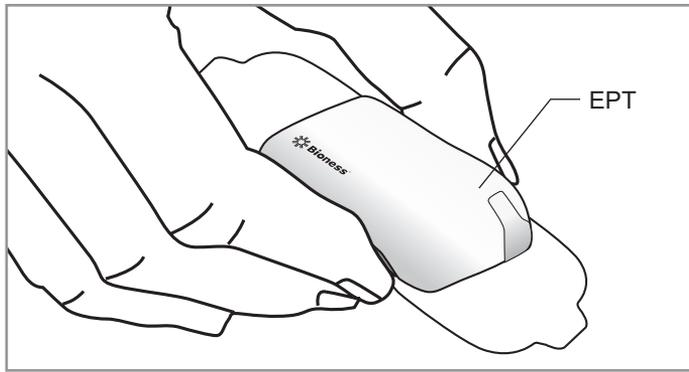

Figure 10-3: Grasp the edges of the EPT attached to the StimRouter electrode
3. Using the index finger and thumb, grasp the edges of the EPT attached to the StimRouter Electrode so the gel pads face downward. See Figure 10-3.